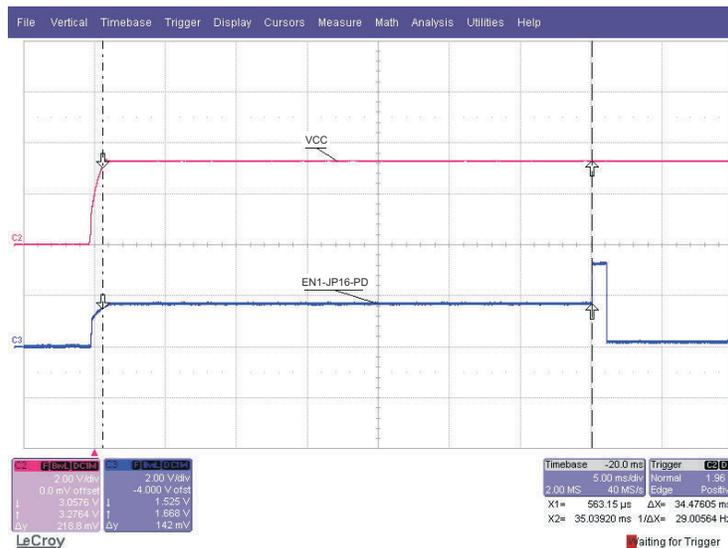

Figure 5-1. Power-Up Delay, no Parameter Change
- Normal case: The UCD9081 performs a checksum test on the contents of the user parameter section. If the test passes, then the UCD9081 compares the contents of the user parameters section to the contents of the application (or last-known-good configuration) parameters section to see if the parameters have changed. If the two areas match, then the sequencer application starts. This nominally takes 35 ms as shown in Figure 5-1